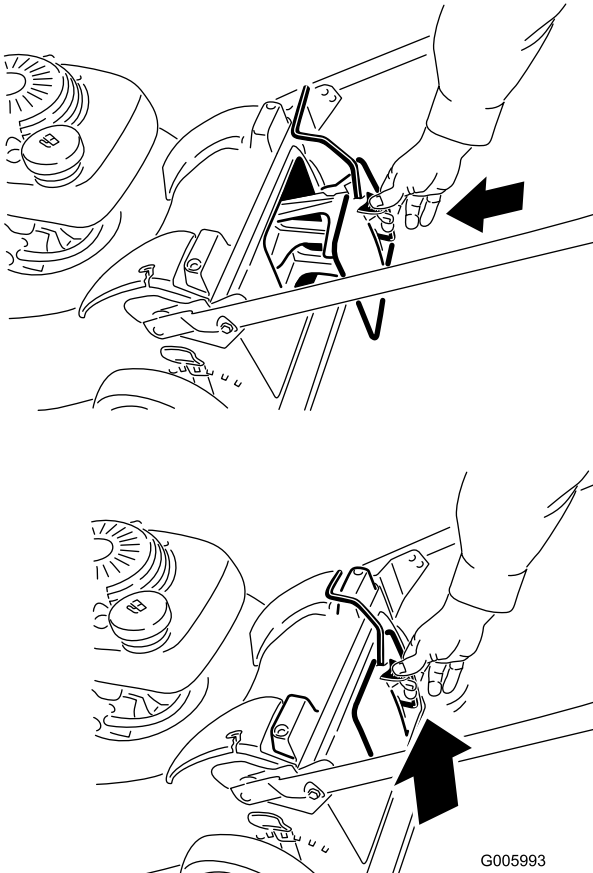

Figure 28
2. Insert the recycle plug (Figure 28).